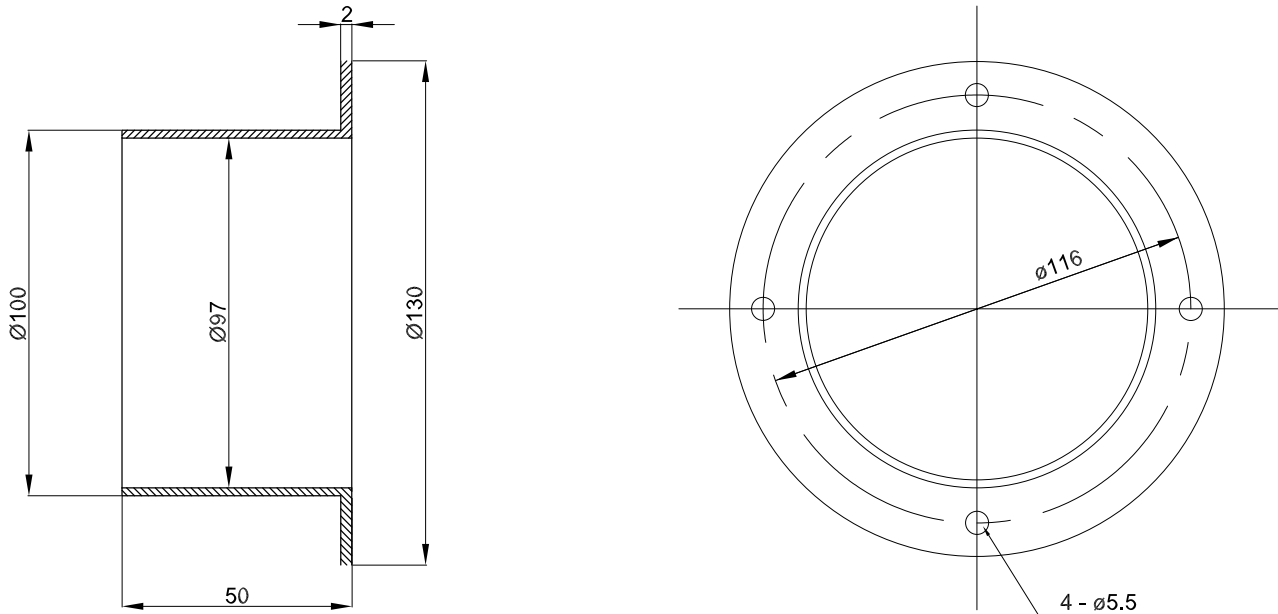

Figure 14 - Branch and Fresh air Duct Dimension
- The side opening allows separate ductwork to be installed for branch ducting. (Figure 14).